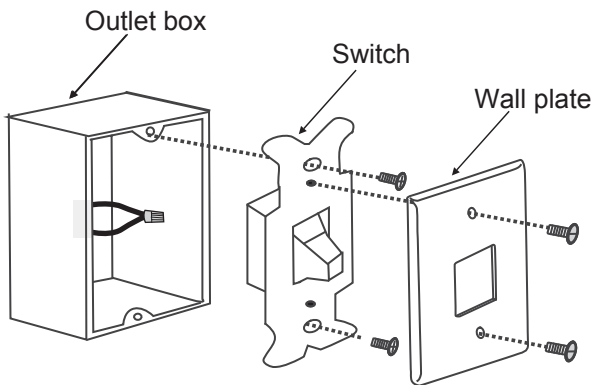

Fig. 22
Step 1. Remove the existing wall plate and the old switch from the wall outlet box. Wire nut the **BLACK** leads (hot) together and push back inside the outlet box. (Fig. 22)